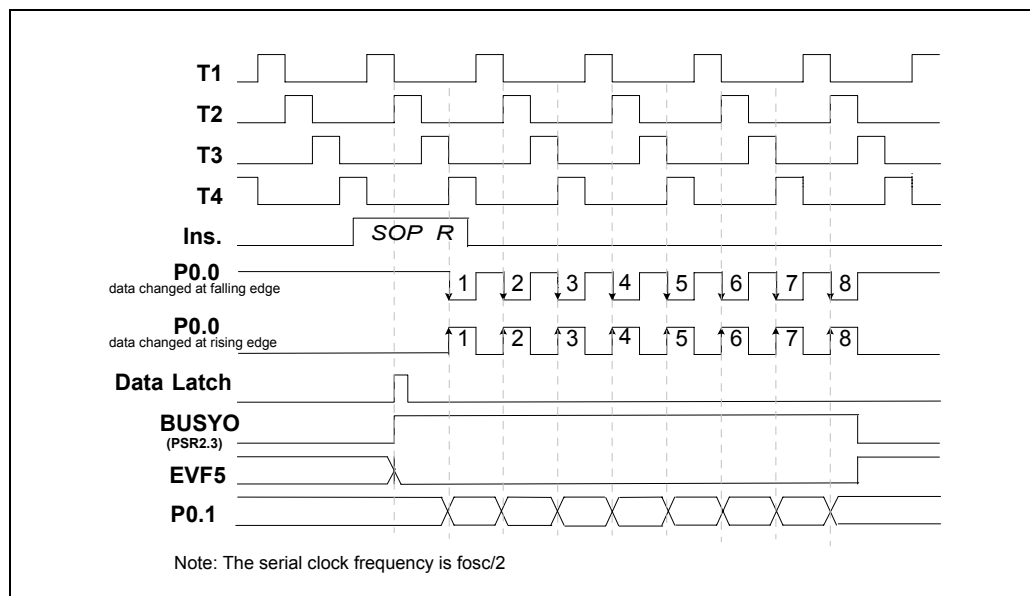

Figure 5-13 Timing of the Serial Output Function (SOP R)
- (2) When the **SOP R** instruction is executed, the data will be loaded to the serial output buffer (SOB) from ACC and the RAM, the low nibble data of SOB is from ACC register and the high nibble data is from RAM, and bit 3 of port status register 2 (PSR2) will be set to "1" (BUSYO = 1). Then the P0.0 pin will send out 8 clocks or accept 8 clocks from external device and the data in SOB will be sent out at the rising or falling edge of the P0.1 pin. After the 8 clocks have been sent, BUSYO will be reset to "0" and EVF.5 will be set to "1." At this time, if IEF.5 has been set (IEF.5 = 1), an interrupt is executed; if HEF.5 has been set (HEF.5 = 1), the hold state is terminated. Users can check the status of PSR2.3 (BUSYO) to know whether the serial output process is completed or not. If a serial output process is not completed, but the SOP R instruction is executed again, the data will be lost. The timing is shown in Figure 5-13.